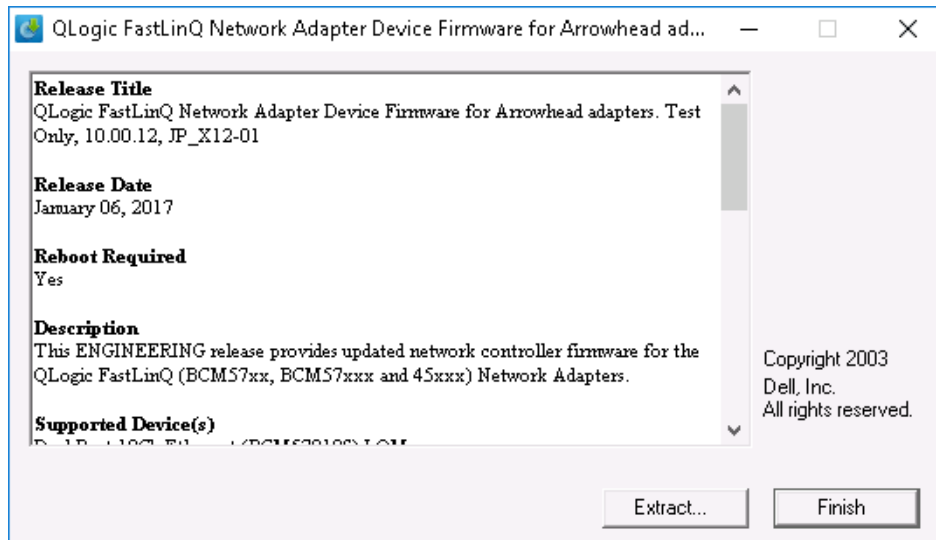

Figure 4-4. Dell Update Package: Finish Installation
5. Click **Finish** to complete the installation, as shown in Figure 4-4.